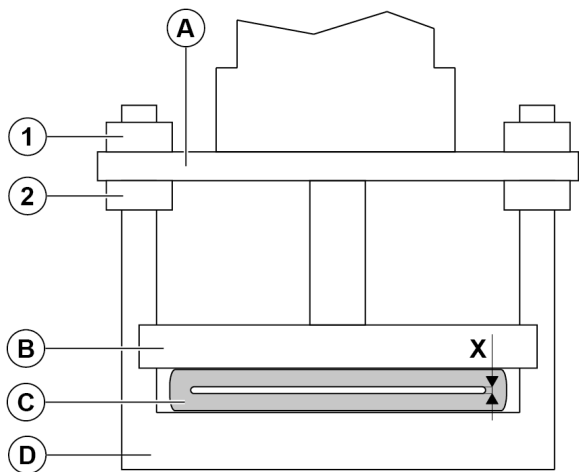

Figure 15.
3. If the valve is equipped with opening tags, loosen the fixing screws (8 pcs) at the pinch bars and pull out the opening tags (*Figure 15*).
3. Open the screws (7.) between the valve body halves and detach the lower part of the body. If the valve has opening tags, detach them (17.) from upper (3.) and lower pinch bars (4.), 8 pcs screws (Figure 15).